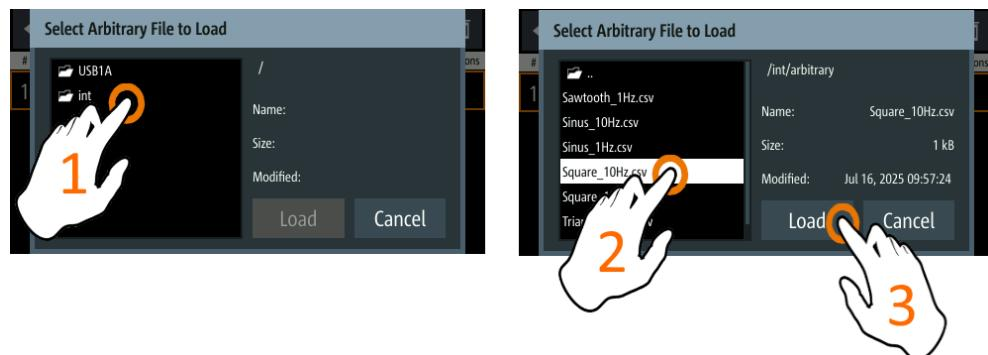

Figure 5-26: Select an arbitrary file location
5. If needed, use delete softkey,  to delete the arbitrary test sequence before loading another new arbitrary test sequence. See Figure 5-26.